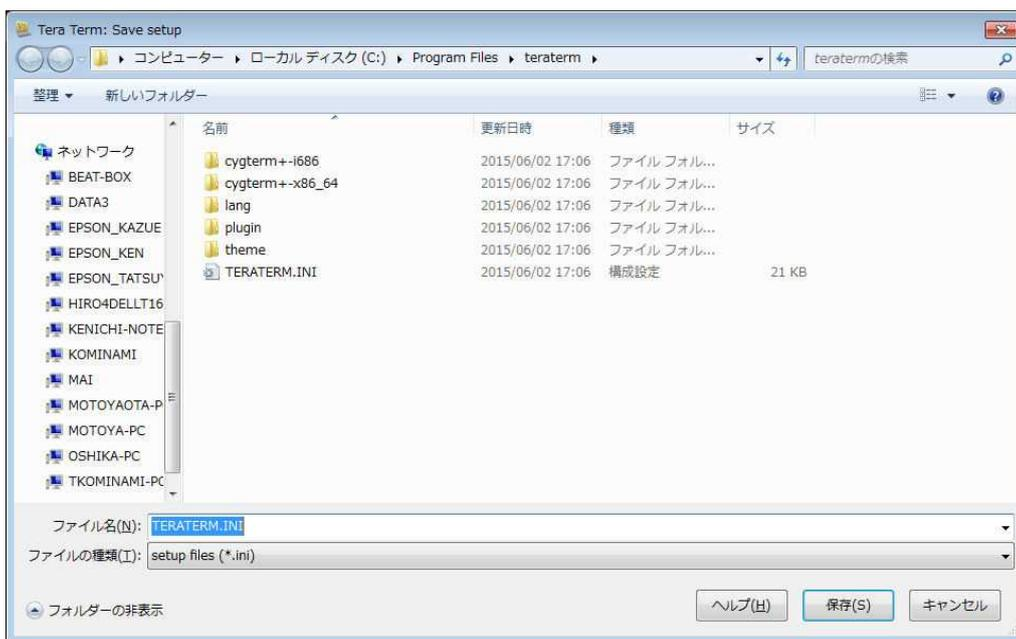

Fig. 4-6
- (4) After setting the above, save the set contents. Select the “Setting Menu → Save Set Contents.” Then, the screen shown in Fig. 4-6 will appear and give a file name to save it.